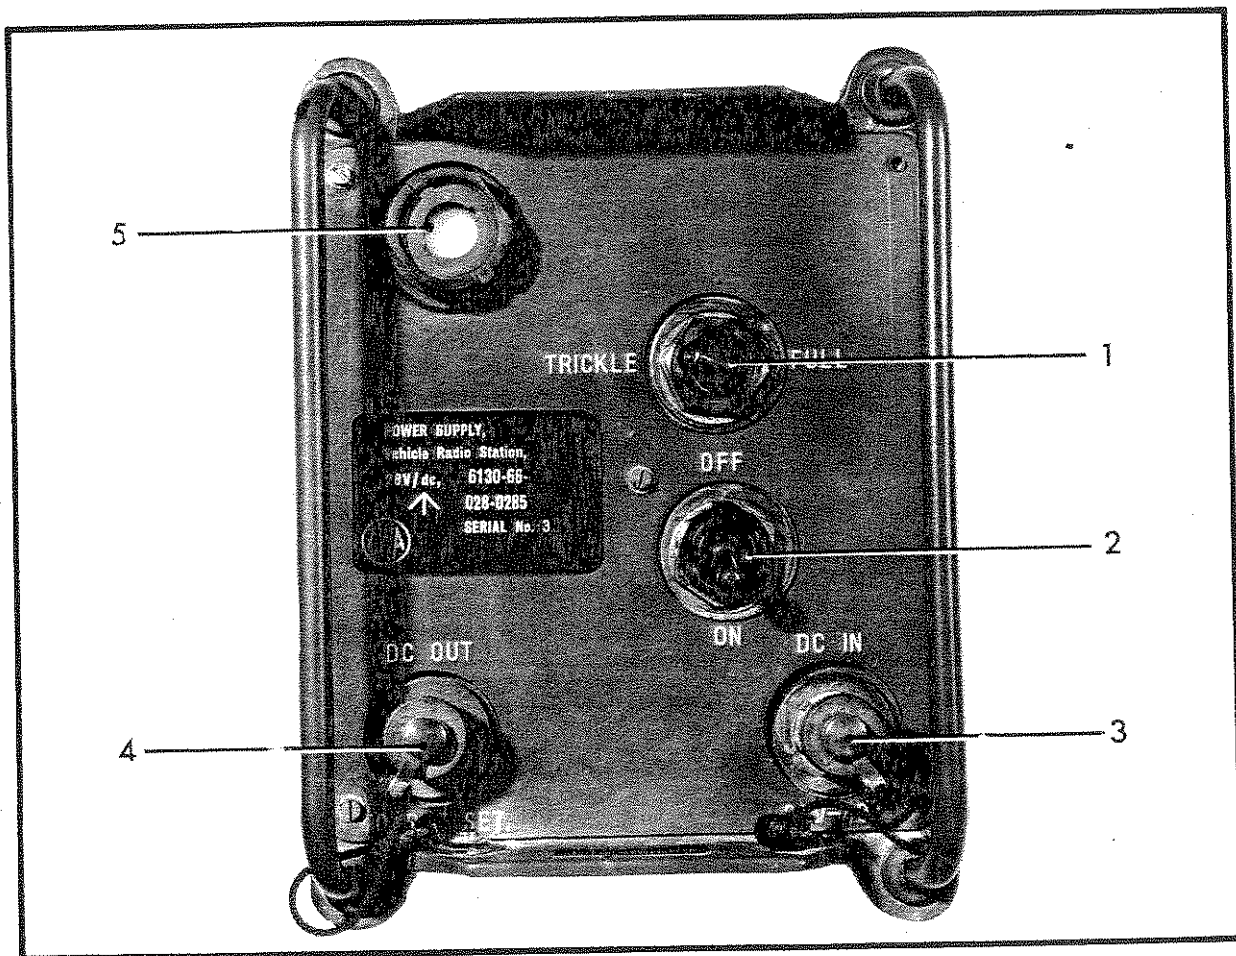

FIG 29
68. This section describes the type, location and function of the control, connectors and associated items located on the front panel. The items are illustrated in Fig 29, and described in Table 6.